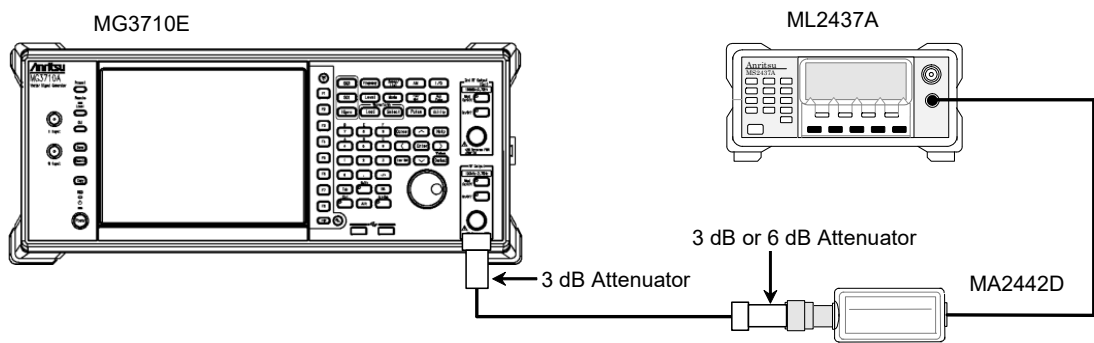

Figure 5.3.1-1 Signal Generator Calibration Setup (CW)
1. Setup the instruments as shown in Figure 5.3.1-1.
2. Output the following CW signal from the Vector signal generator (SG).